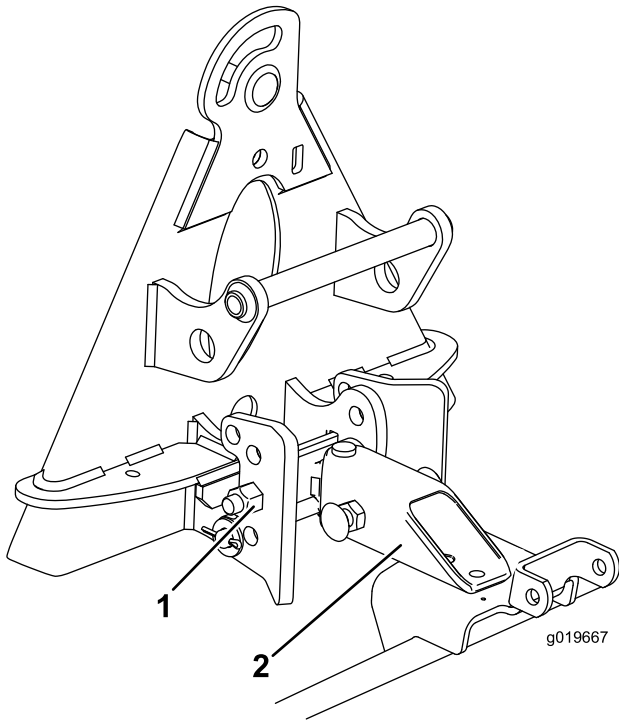

Figure 14
1. Mount the hitch assembly in the lower holes of the stop bracket (Figure 14).
2. Align the longer side of the tongue tube down and assemble it to the top side of the hanger assembly (Figure 14).